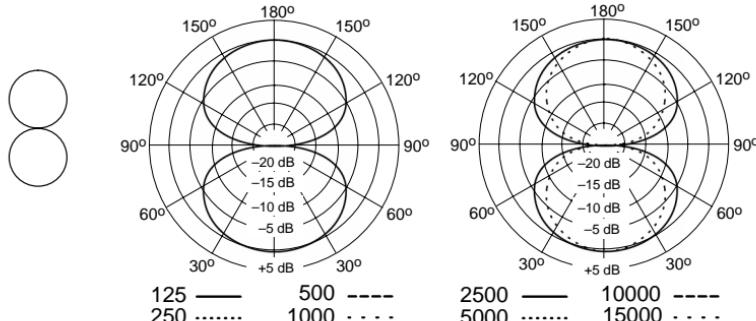

FIGURE 8. TYPICAL POLAR PATTERNS
- **Bidirectional.** Picks up equally from the front and back of the microphone while rejecting sounds from the sides. Bidirectional is often used in microphone configurations for stereo recording (such as mid-side and Blumlein techniques). See Figure 8. Note: As with all bidirectional microphones, sounds picked up from the front will be in polarity with the source and those picked up from the back will be out of polarity with the source.